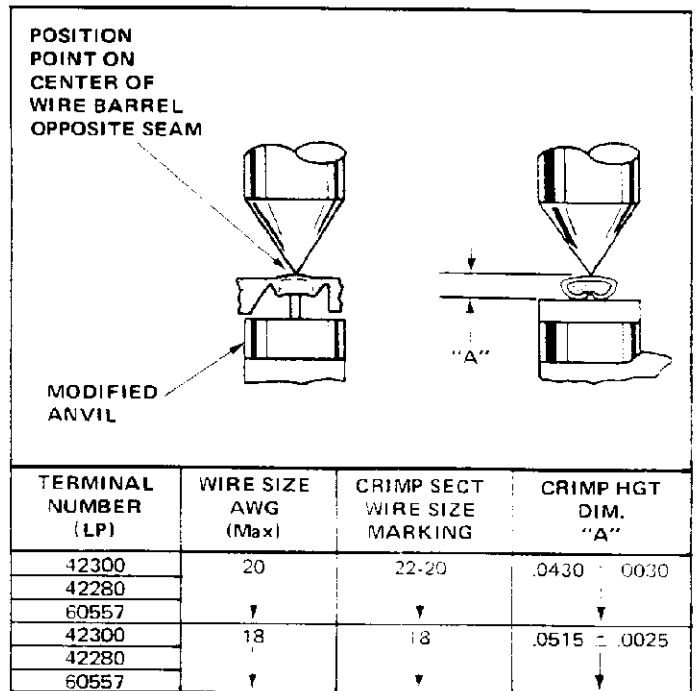

Fig. II-2
This inspection incorporates the use of a micrometer with a modified anvil as shown in Figure II-2. We recommend the modified micrometer (Crimp Height Comparator RS-1019-5L) which can be purchased from:
1. Refer to the chart in Figure II-2, and select a terminal (LP) and a wire (maximum size) for each crimp section.
3. Using a crimp height comparator, measure each wire barrel crimp height as shown in Figure II-2. If the crimp height conforms to that shown in the chart the tool is considered dimensionally correct. If not, return the tool to AMP for evaluation and repair (see Paragraph II-3). For additional information concerning the use of the crimp height comparator, refer to AMP Instruction Sheet IS 7424.
1. Select a terminal (LP) and a wire (maximum size) for the tool (see Figure II-2).